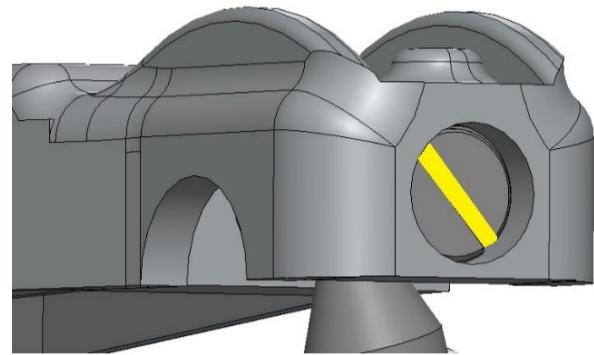

Figure 20: Yoke Rear Pivot Stud
6.6.1. Some adjustments critical to the function of the switch are made at the factory and should not be attempted in the field without the direction or supervision of Southern States Field Service technical staff. Refer to Figures 20, 21, and 22 for examples of these critical factory adjustments.